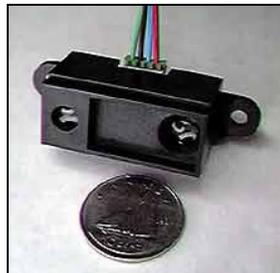

Figure 10. IR Distance Sensor
Finally, each group is also given an infrared (IR) distance sensor, as shown in Figure 10. This sensor can measure the distance to the nearest object in the range of 4” to 31” from the sensor. This is accomplished by emitting an infrared beam. If there is an object in the detection range, the beam will be reflected off the object and detected by the receiver photodiode optics. An output voltage proportional to the distance of the object is sent to the A/D converter, which converts this voltage into a number between 0 and 255. More information can be found at <http://www.hvwttech.com/i rods.htm#how>